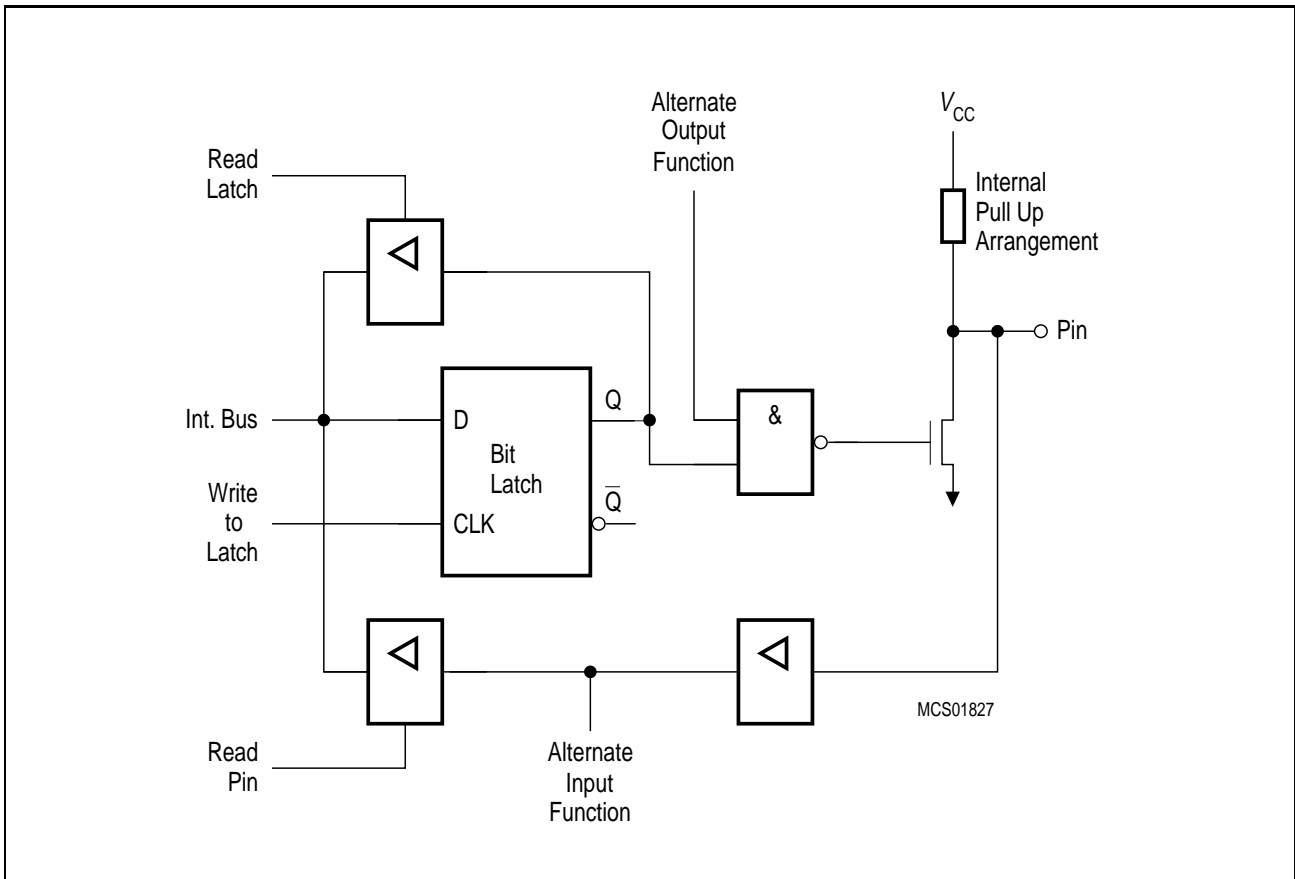

Figure 6-9
Figure 6-9 shows a functional diagram of a port latch with alternate function. To pass the alternate function to the output pin and vice versa, however, the gate between the latch and driver circuit must be open. Thus, to use the alternate input or output functions, the corresponding bit latch in the port SFR has to contain a one (1); otherwise the pulldown FET is on and the port pin is stuck at 0. After reset all port latches contain ones (1).